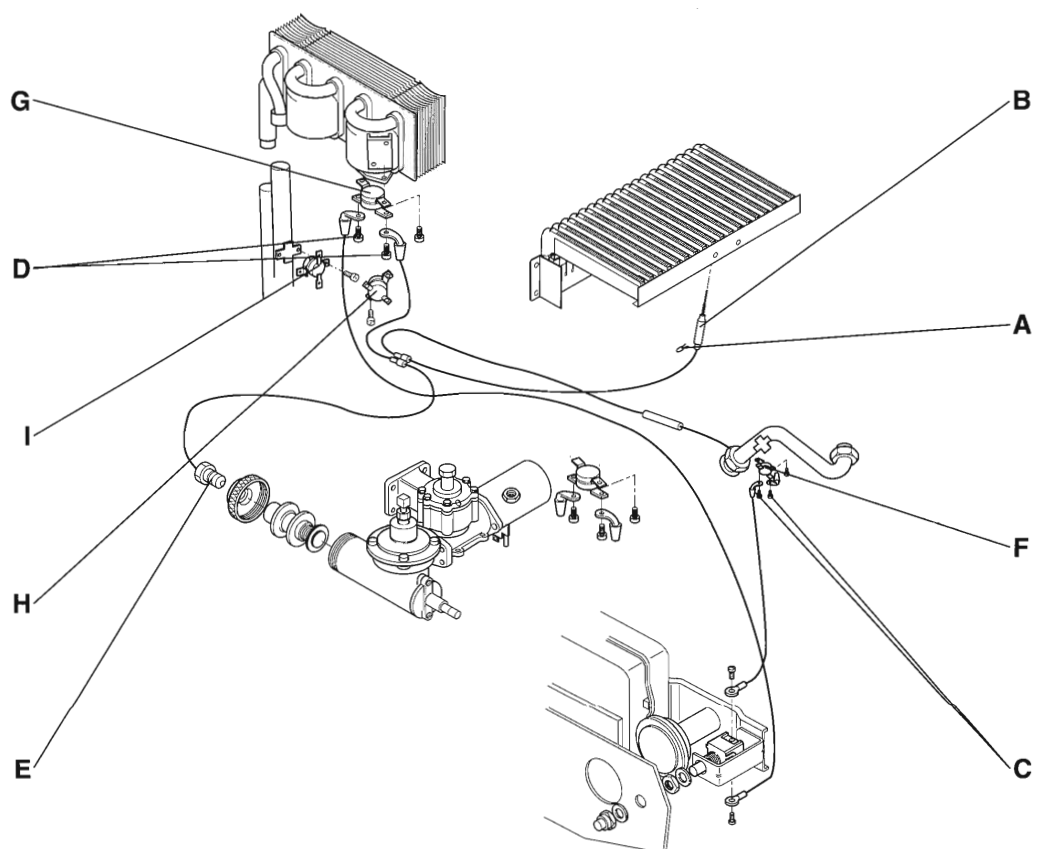

Figure 25
- 14.4. Disconnect the leads to the overheat stat G by removing the terminal screws D (Figure 25).
- 14.5. Pull off the terminal leads to the two overheats stats I, H, noting their position (Figure 25).